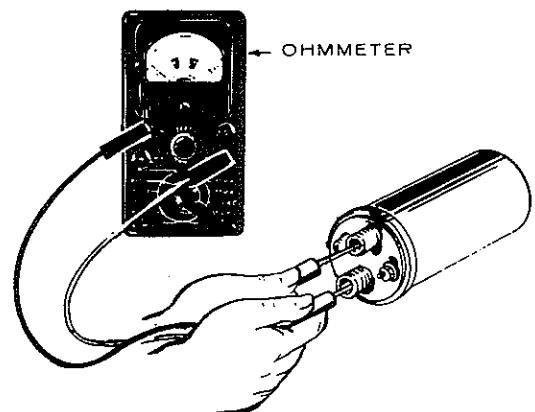

FIGURE 10-5. COIL TEST
2. Disconnect wires from spark plugs and connect one ohmmeter lead to each spark plug lead (wire). The ohmmeter reading should be 7,500 to 10,000 (10,800 to 31,200 ohms for coil number 166-0346). If unable to get a reading here, determine if the wires are at fault by connecting directly to the coil (hi-tension, castle terminals), Figure 10-5.